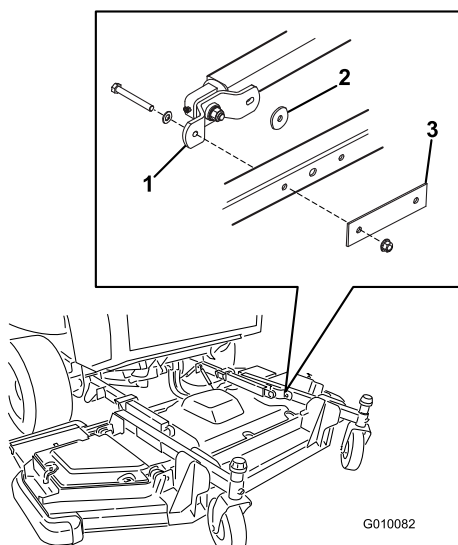

Figure 4
8. Remove the cap screws, flat washers, plate and lock nuts that secure the lift arm support hubs to the cutting unit (Figure 4). Remove the thrust washer from between the lift arm and the rear, slotted hole in the support hub.
2. Position the cutting unit to the lift arms (Figure 4).
5. Push down on the lift arm until the support hub aligns with the cutting unit. Make sure that the slotted hole in the support hub is toward the rear of the cutting unit (Figure 4).
7. Place thrust washer between the lift arm and the rear, slotted hole in the support hub (Figure 4).